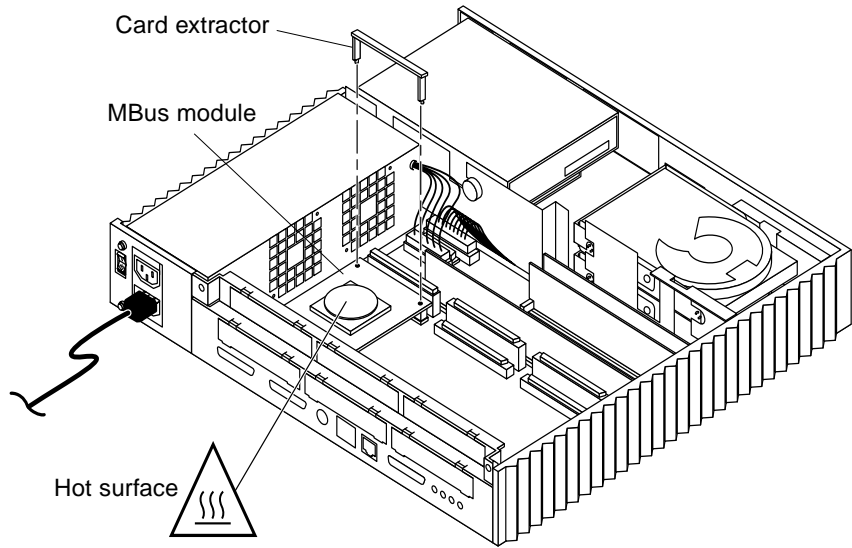

FIGURE 11-2 Extractor Installation on a Single-Wide MBus Module
- 5. Install the card extractor on the MBus module (FIGURE 11-2).**